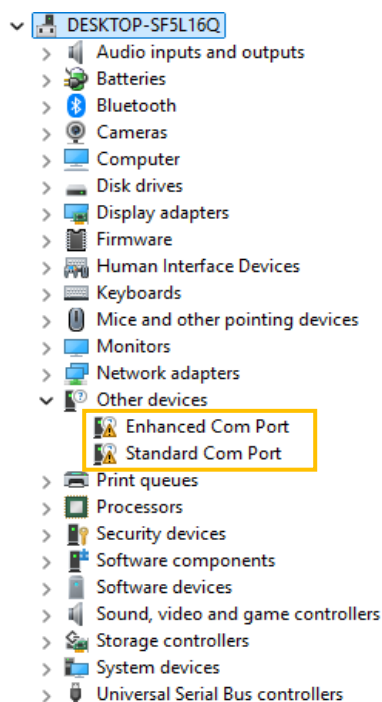

Figure 1. The device manager tab before installing the CP210x VCP (Virtual COM Port) driver.
- At minute 3:58, if the COM ports “Silicon Labs Dual CP210x USB to UART Bridge: Enhanced COM Port (COMx)” and “Silicon Labs Dual CP210x USB to UART Bridge: Standard COM Port (COMy)” do not appear in the Device Manager tab, instead, two devices appear under “Other Devices”, as shown in Figure 1, it means the required drivers are not installed. To fix this problem, use the link provided in [3] to download the “CP210x VCP (Virtual COM Port) driver”, then restart your PC, and the EVM’s ports should appear under “Ports (COM & LPT)”.